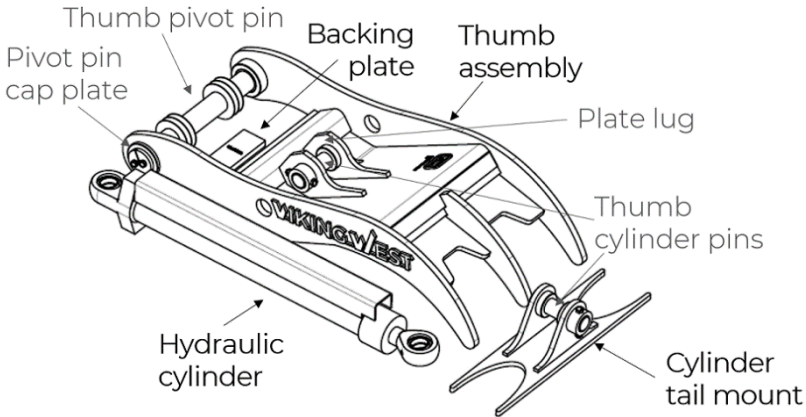

Figure 1: Main components of the Direct Link Thumb. Items labelled in grey are relevant sub-parts.
2. Familiarize yourself with the main components of the Direct Link Thumb, as shown in Figure 1 below.